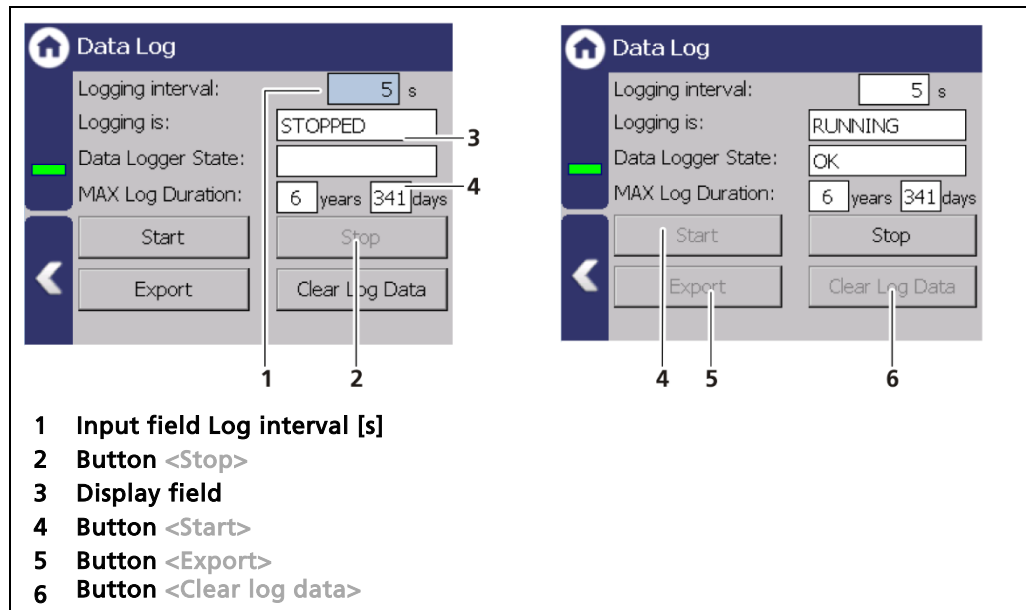

Fig. 142 Data Log
1. Click on the button <Stop> (Fig. 142, item 2) to stop the data log process.
2. Click on the input field "Log interval" (Fig. 142, item 1) and enter the time in seconds.
4. Click on the button <Start> (Fig. 142, item 4) to start the data log process.
3. Click on the button <Export> (Fig. 142, item 5).